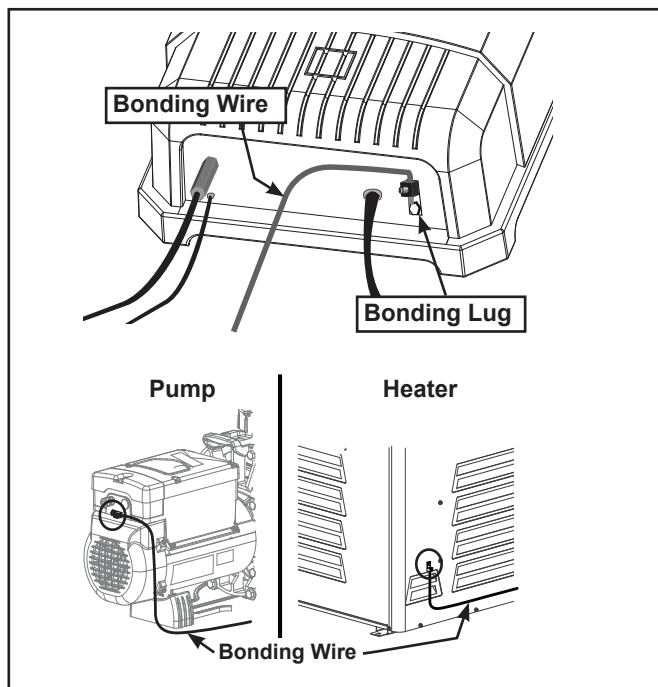

Figure 4. Bonding Wire
5. Disconnect the bonding wire from the power pack (see Figure 4).
10. Attach the bonding wire to the bonding lug located on the bottom of the chassis backplate on the power pack (see Figure 4). Verify that the second end of the bonding wire is attached to a common bonding point such as the pool pump or heater (see Figure 4).